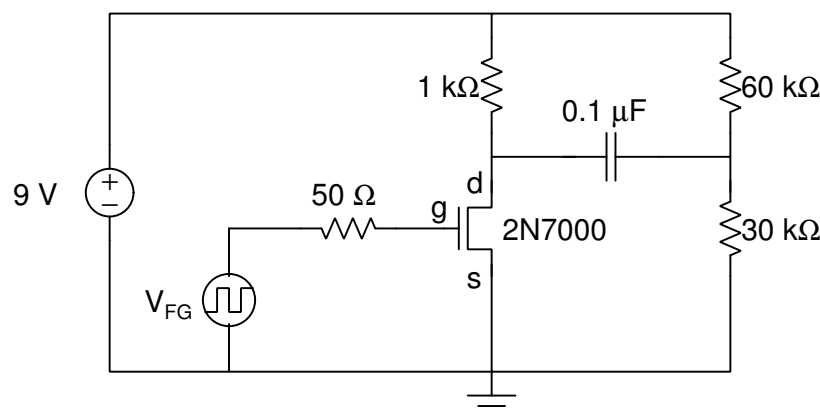

Figure 3: Multivibrator half-circuit.
1. Build the multivibrator half-circuit shown in Figure 3.